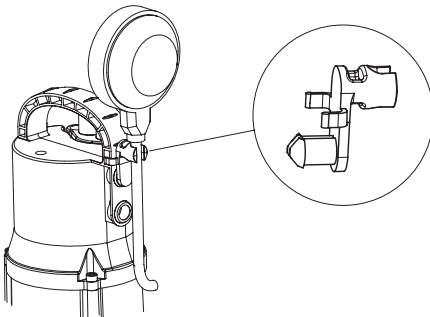

Figure 3
- / The cable is attached to the swivel clip at the end of the carrying handle (see page 26, figure 3).
- / Fit the "Always-on" clip (supplied as standard) by pressing it into the hole at the end of the carrying handle above the swivel clip. Lock the float switch in the clip so that it always points upwards (see page 26, figure 3).